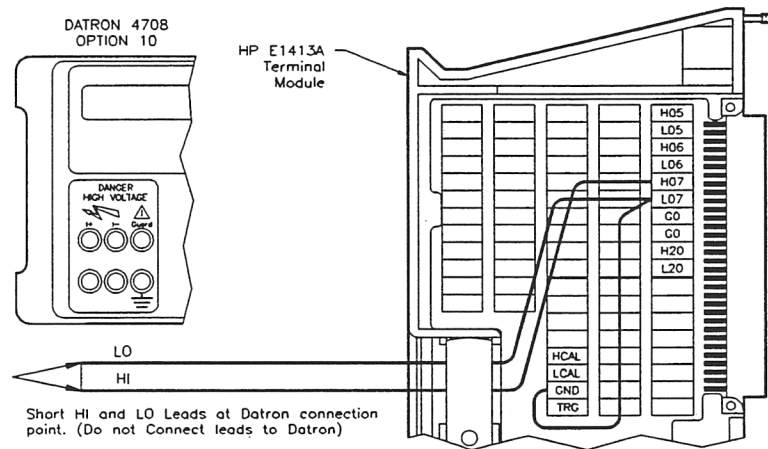

Figure 2-5. Channel Tare/Calibration Connections
- For channel tare/calibration connections, see Figure 2-5
- [a] Connect wiring to terminal module (see Figure 2-5)